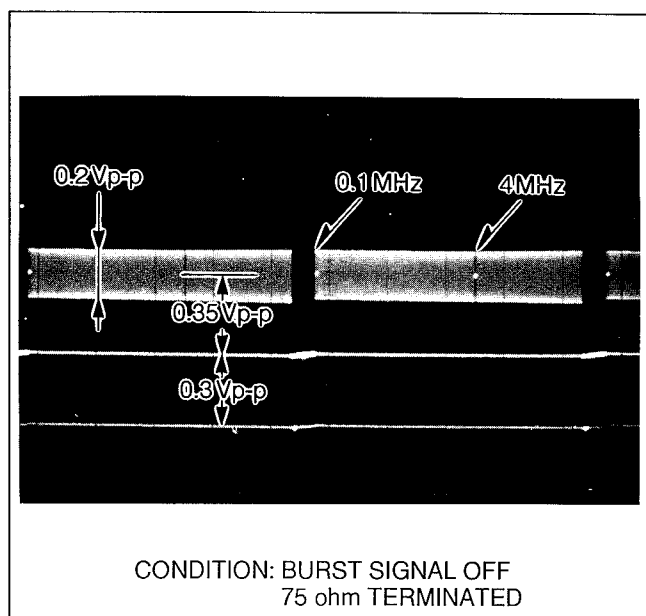

Fig. E11
2. Set the Video Sweep Signal as shown in Fig. E11.